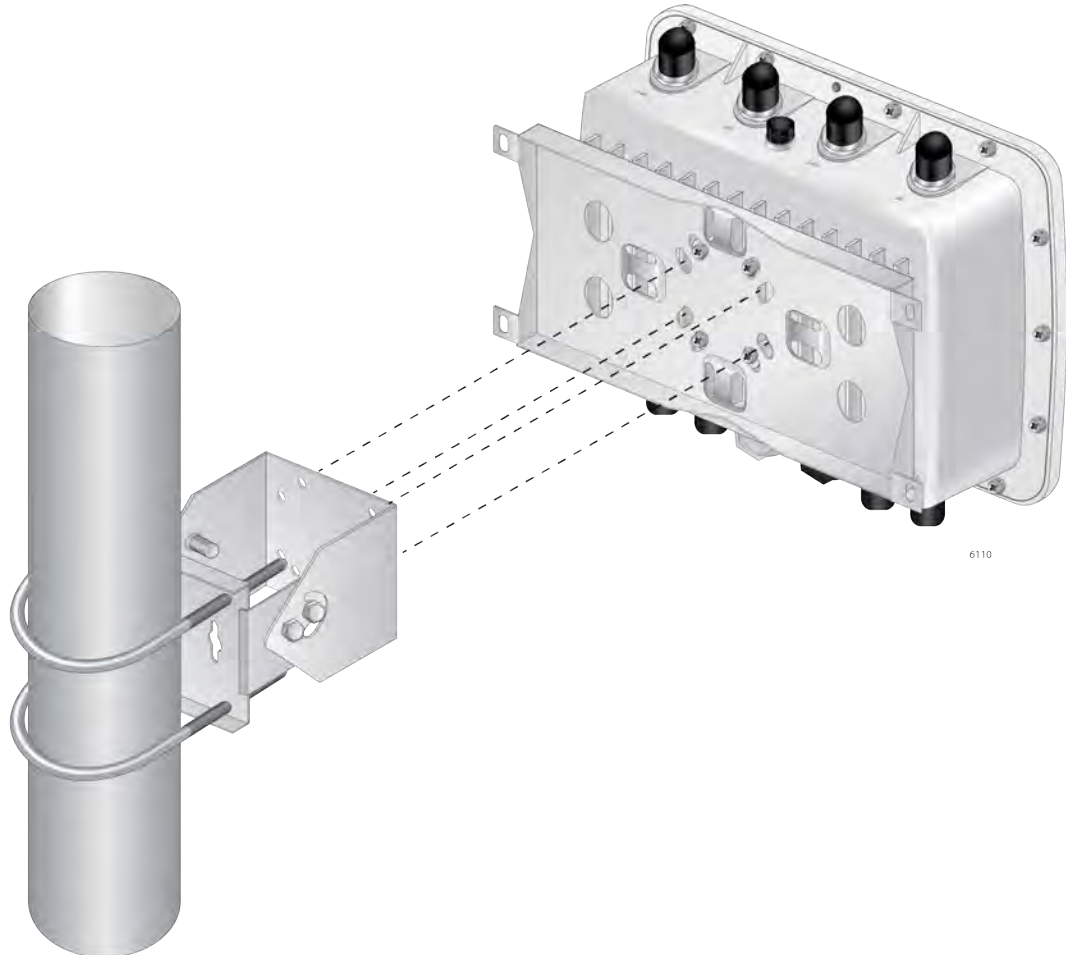

Figure 38. Attaching the Access Point to the Pole-Mount Brackets
3. Attach the pole mount bracket unit to the pole with the two U-bolts. See Figure 38 on page 70.